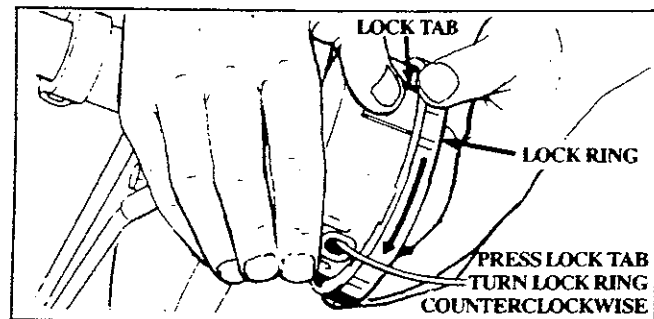

Figure 16
- a. Hold the Trimmer Head as shown in Figure 16. Press the lock tab, and turn lock ring counterclockwise.